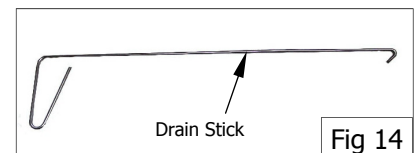

Fig 14
7. If necessary, use the drain stick (see Fig 14) to dislodge any blockages in the drain.